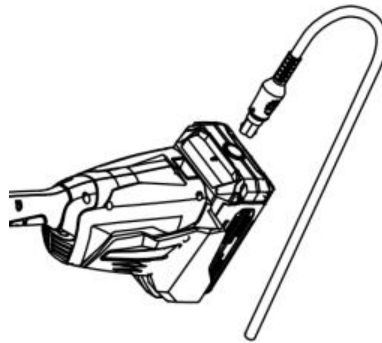

Fig 9
3. Connect and disconnect the battery to/from the tool (Fig 9).